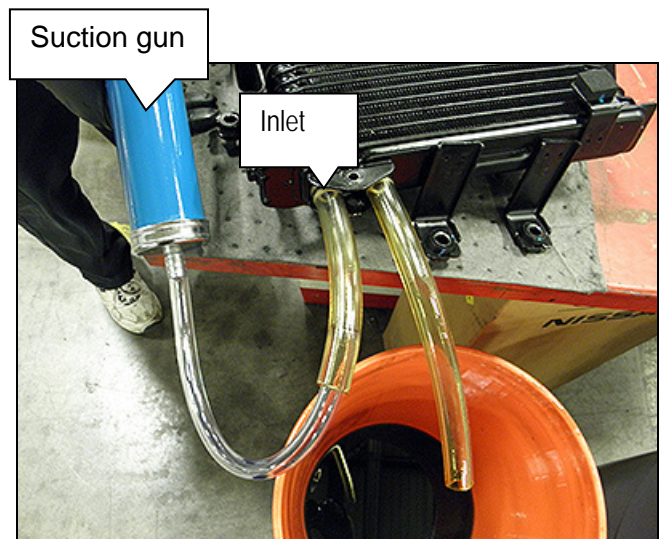

Figure 9
11. While holding the hoses securely to the auxiliary fluid cooler (Figure 9), flush 2 full quarts of NS-3 (or equivalent) with a 1 pint suction gun.